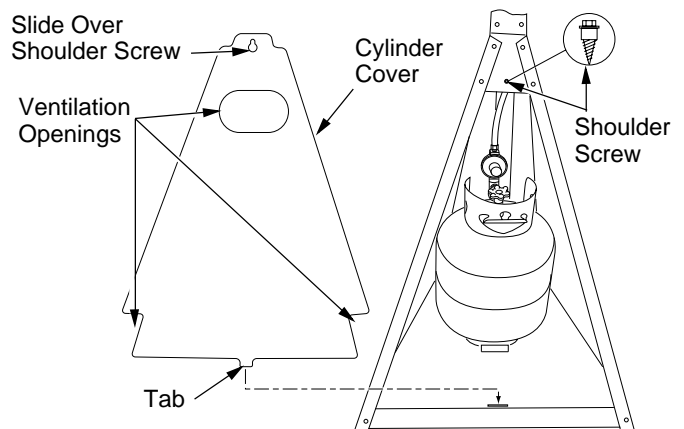

Figure 13 - Installing Cylinder Cover
17. Install knob onto gas valve stem aligning “d-flat” (see Figure 13).
18. Install shoulder screw, provided, into center hole at bottom of back plate (see Figure 13).
19. Place cylinder cover over this screw while inserting tab in base (see Figure 13).
7. Replace cylinder cover by sliding cover over shoulder screw while inserting tab in base (see Figure 13).